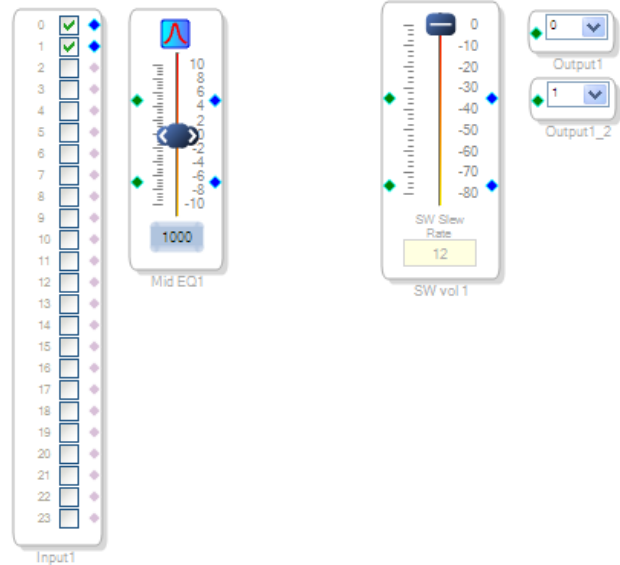

Figure 29. Stereo Audio Flow with Volume Control and Single-Band Equalizer
13. Click and drag the **Medium Size Eq** cell into the project space, as shown in Figure 29.